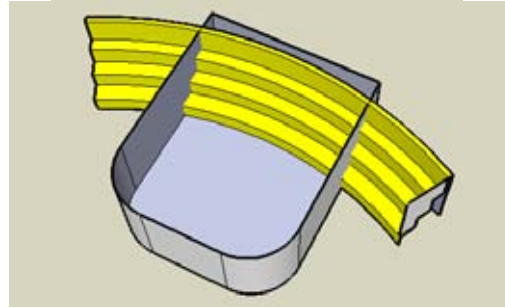

Figure 4-66
4. Using all three segments of the arc as the Follow Me path, and the step section as the Follow Me face, create the steps (Figure 4-66).